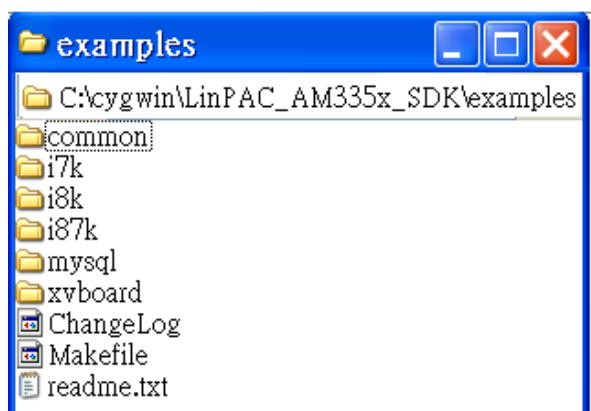
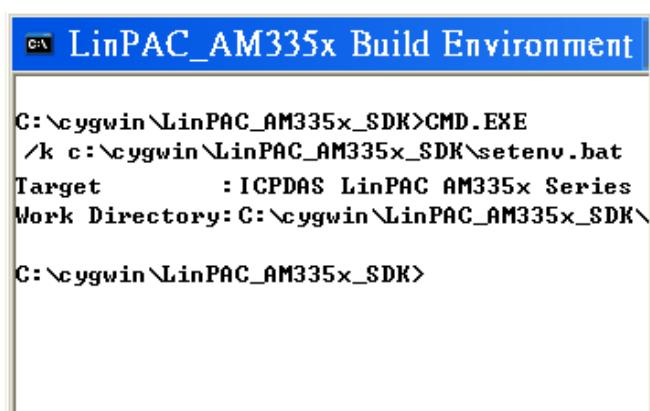

Fig. 3-15
Fig. 3-16
8. From the desktop, double-click the shortcut icon for the "**LinPAC AM335x Build Environment**" or click the "**Start**" > "**Programs**" > "**ICPDAS**" > "**LinPAC AM335x SDK**" > "**LinPAC AM335x Build Environment**". A Command Prompt window will then be displayed that allows applications for the LP-52xx to be compiled. Refer to Fig. 3-15 and Fig 3-16.